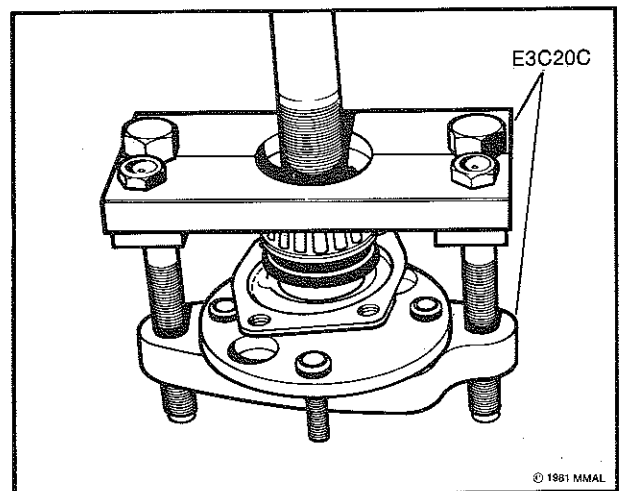

Fig. 10—Installing axle shaft components
(3) Place the lubricated bearing on the axle shaft ensuring that the cup **rib-ring** is **toward the retainer plate**.
(4) Position the bearing squarely onto the axle shaft using Special Axle Shaft and Bearing Installing Tool. When pressing the bearing onto the axle shaft, ensure that the bearing to shaft fit is such that the bearing inner race will not turn on the axle shaft refer Fig. 10.
(5) Force the bearing cone to seat against the shaft shoulder — check using feeler gauges.
(6) Place a new collar (chamfer towards bearing) onto the axle shaft and press it on until it contacts the bearing cone. When pressing the collar onto the axle shaft a minimum force of 1135 kg (2 500 lbs.) should be used.
(7) Install the assembly as described in Installation.